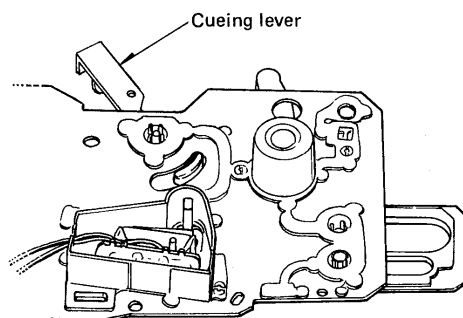

Fig. 7
- (2) Shift the cueing lever of the mechanical board to the "cueing up" position. (Fig. 7)